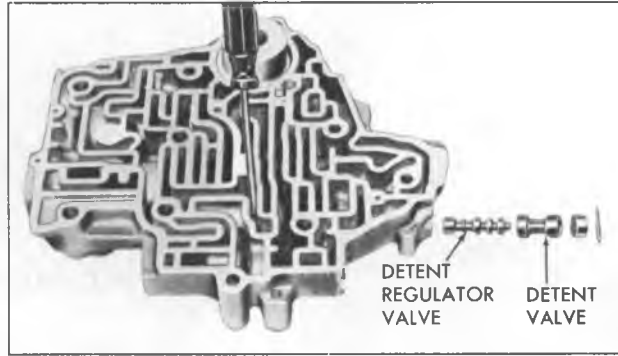

Figure 53—Installing Detent Regulator and Valve
4. In next bore up, install detent spring and spacer. Compress spring and secure with small screwdriver (fig. 53).